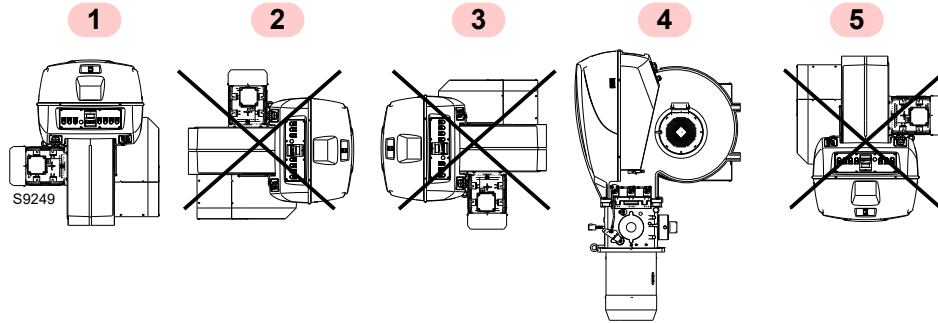

Fig. 11
- The burner is designed to operate only in positions **1** and **4** (Fig. 11).